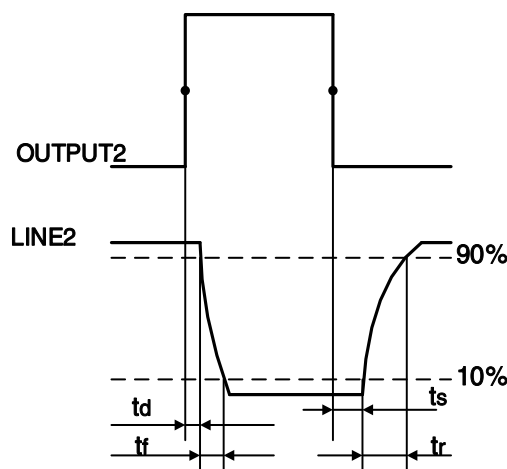

Figure 7-20 Parameter of Line2 output circuit
- Rising time delay = tr+td: <20μs (0°C~45°C) (parameter description as shown in Figure 7-20)
- Falling time delay = ts+tf: <20μs (0°C~45°C) (parameter description as shown in Figure 7-20)